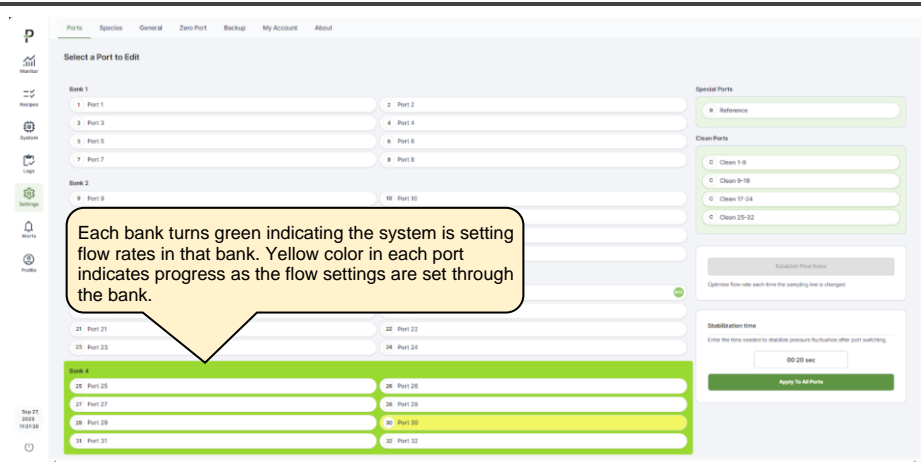

Figure 52: Establish Flow Rates Routine Running
- Selecting **Proceed** starts a sequence in which the flow rate of each port within each bank is optimized depending on its line length. See Figure 52 for an example of this process underway. Each bank turns green as the process in it proceeds. Each port turns yellow to indicate the flow rate is being set for that port. The sequence stops when all banks are completed.